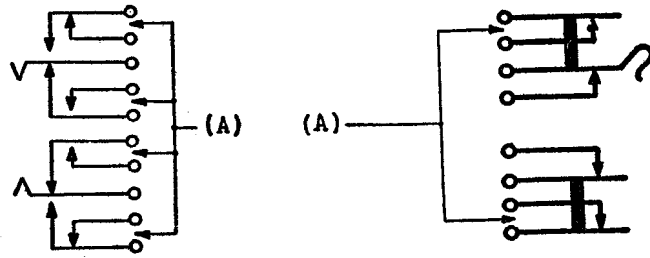

Fig. 7
- Fig. 7(A): Plunger springs having make-before-break combinations on each side shall have contact separation for contacts which never touch the plunger spring of—0.008 inch (Readjust—0.010 inch).